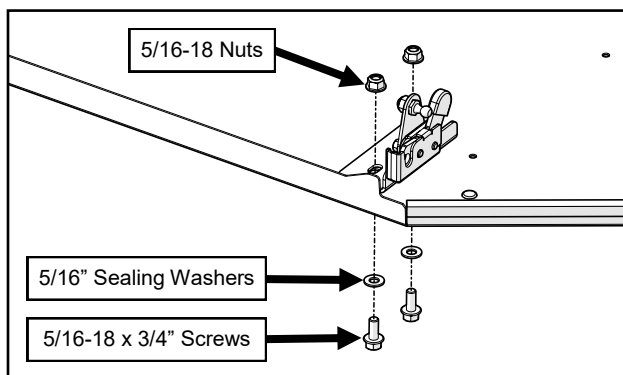

Fig. 1.4 (Latch Bracket Fastening)
- 1.4 Mount the pre-assembled left latch bracket assembly to the left side of the roof as shown in Figure 1.4. *The headliner is hidden in Figure 1.4 for clarity.*